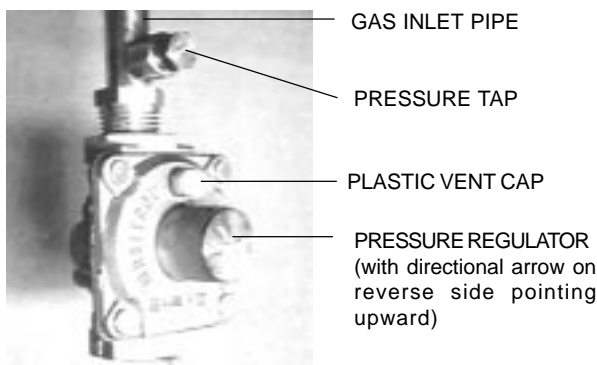

Fig. 5 - Installation of Gas Pressure Regulator
**NOTE:** The 125 HX is supplied with a gas pressure regulator that must be installed on the heater before attaching the gas supply line. See fig. 5. Failure to install the gas regulator as shown in figure 5 will be a violation of CSA certification of the unit. The regulator supplied with the heater is preset for the gas shown on the rating plate to the correct pressure. It is an appliance level regulator designed for (low inlet) pressure (less than 1/2 Psig or 15" W.C.)
**NOTE:** The gas pressures specified below refer to pressures taken at the pressure tap on the gas inlet pipe just above the regulator (See Fig 5). These readings should be taken while the heater is operating at full input – i.e. maximum water flow with the temperature dial selector turned all the way clockwise.